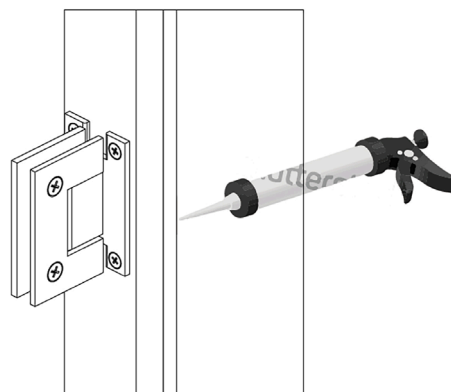

FIGURE 25
Apply a bead of silicone where the Wall Jamb (A) meets the wall on **BOTH** sides. (See Figure 25)